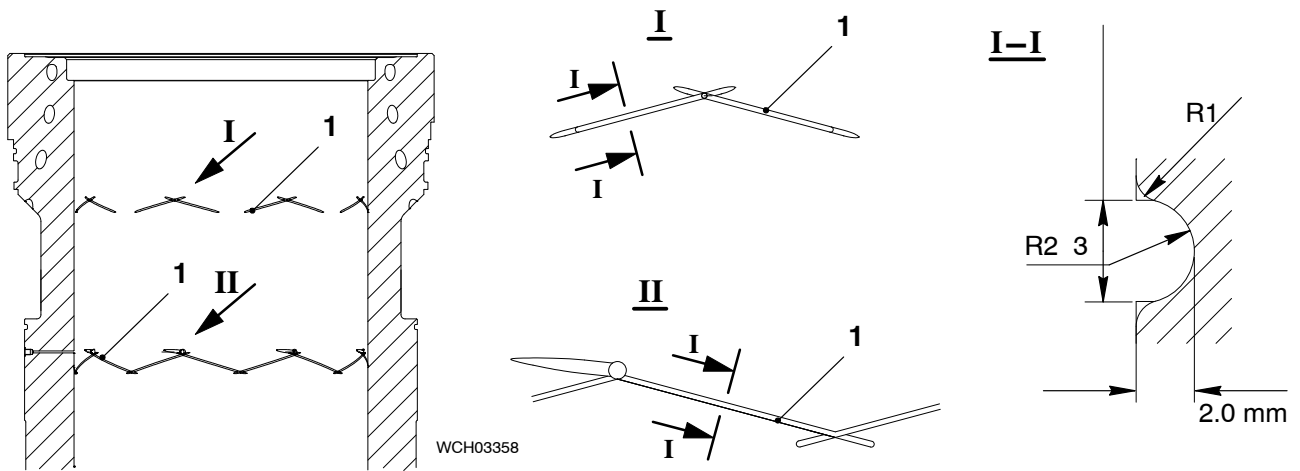

Fig. 2
- 1) If the depth of the lubricating grooves (1, Fig. 2) has decreased to less than 1.5 mm, do as follows:
- a) Use emery cloth or an oil stone to get the the lubricating grooves (1) back to their original depth (see Fig. 2).